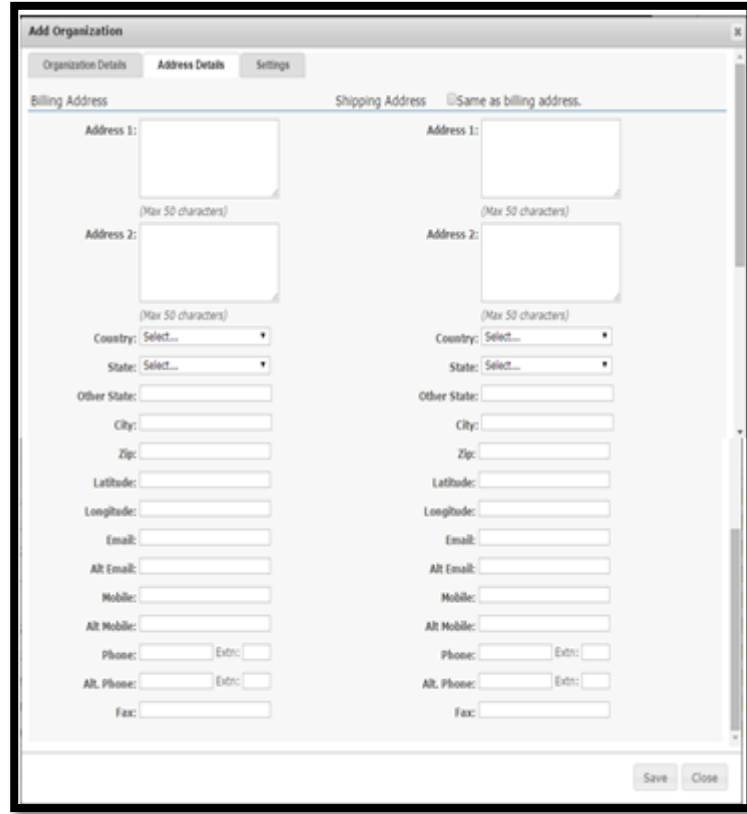

FIGURE 6.14.4
Step 4: Click on the Address Details Tab and fill the necessary information on the given form. You have to provide address details in this form. A snapshot of the page along with the details about the fields are given in figure: 6.14.4